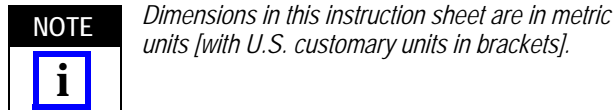

Figure 1
2. DESCRIPTION (Refer to Figure 1)
2. Insert contact into desired contact cavity at the wire end of the housing with the reverse insertion tabs facing the locking latch. See Figure 1. Push the contact until it stops; there will be an audible 'click' when the contact is fully inserted.